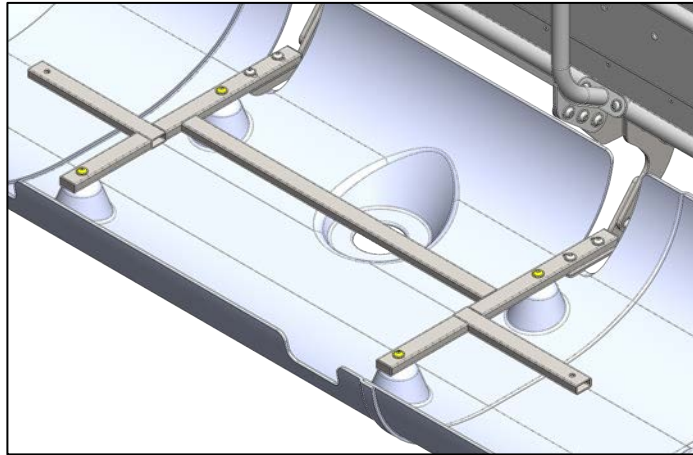

Fig.5
- Offer up the drip tray to the underside of the frame and line up the holes. Secure in place using the M8x25 bolts, washers and nuts (highlighted in Fig.5). Ensure the drainage hole is towards the back of the shower stretcher, closer to the wall.